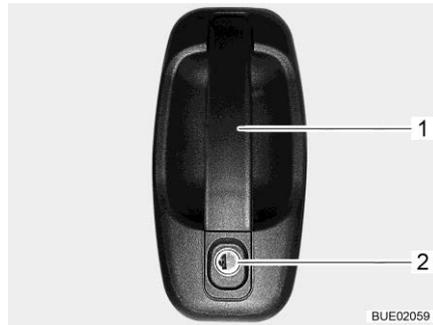

Fig. 66 Door lock (driver's door, outside)
- Insert the key into locking cylinder (Fig. 66,2) and turn until the door lock is unlatched.
- Pull on the door handle (Fig. 66,1). The door is open.
- Insert the key into locking cylinder (Fig. 66,2) and turn until the door lock is engaged.